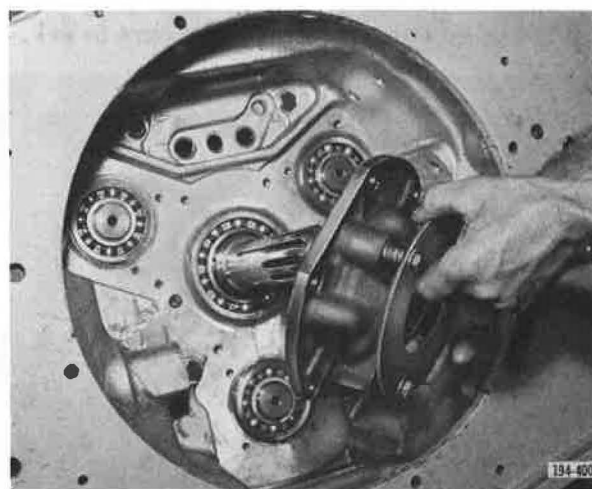

Figure 5-708. Removing Bearing Cover
13. Remove main drive pinion bearing cover. See **Figure 5-708.**